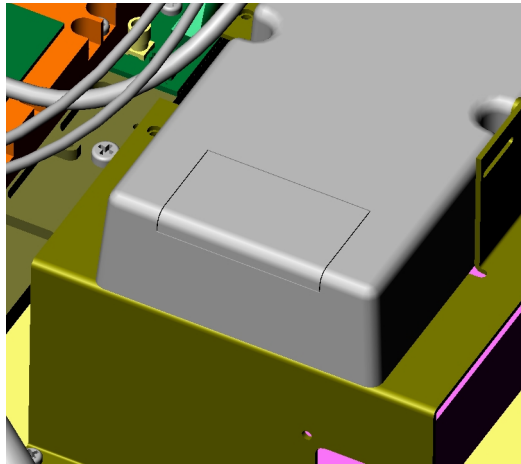
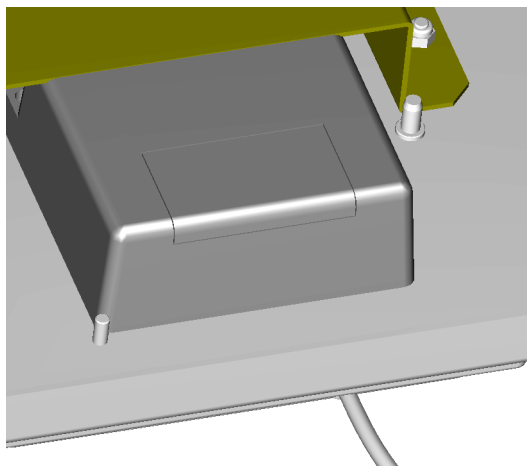

figure 39. bSPICE SIM card slot
figure 40. cSPICE SIM card slot
2. Remove the SIM in the modem (if any) (Figure 39, Figure 40).